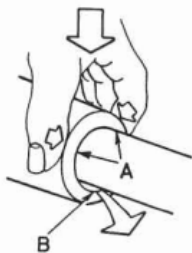

Fig. 7 - Venting
- 1 Compress the rubber seal at the lip and press towards the propeller shaft A, (Fig. 7). This will form a gap B between the shaft and the seal, allowing air to be vented.